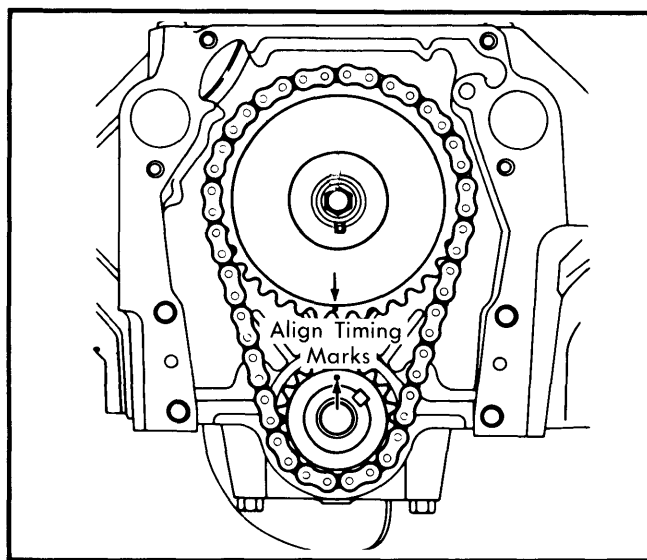

Fig. 9 Aligning Timing Marks
**NOTE** – When the two marks are in alignment, No. 6 cylinder is at TDC. To obtain TDC for No. 1 cylinder, slowly rotate crankshaft one rotation. This will bring cam mark to the top. No. 1 will then be in firing position. See Fig. 9.